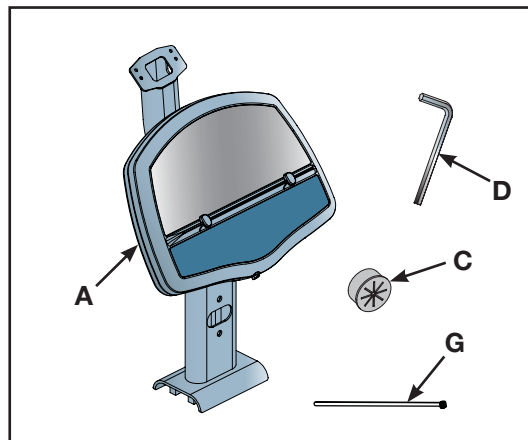
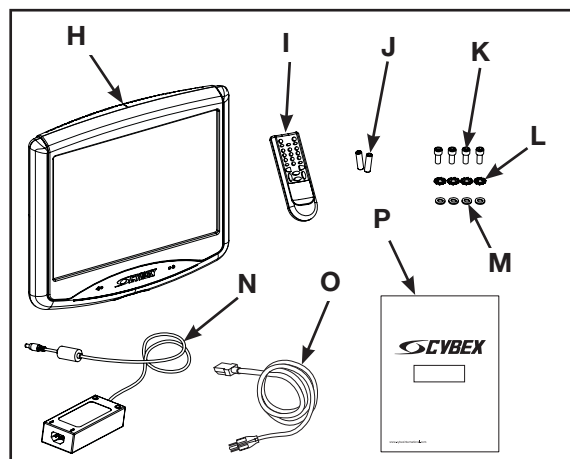
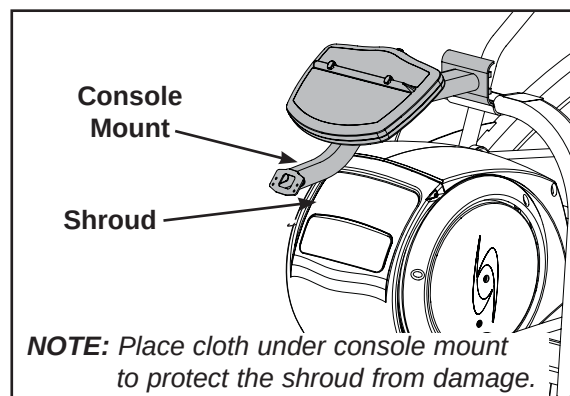

Figure 11
Figure 12
Figure 13
2. Verify the kit contents shown in Figure 11.
- A. Console with monitor mount (1), 620A-220
- B. Coax and power cables (1), 630A-104 (in Arc frame)
- C. Strain relief bushing (1), PP740000
- D. 3 mm Allen wrench (1), BK030210
- E. Poster (1), 620A-387 (not shown)
- F. Warranty sheet (1), LT-20219 (not shown)
- G. Cable Tie (2), EW000028
3. Verify the monitor kit contents shown in Figure 12.
- H. Monitor (1), EE000005 or EE000007
- I. Remote control (1), EM000000
- J. Batteries, Remote control, AAA size (2), N/A
- K. Screws, Mounting, M4 x 0.7 x 10 mm (4), HC692860
- L. Washers, External Lock (4), HS047300
- M. Washers, Flat, M4 (4), HS097600
- N. AC/DC Adapter (1), ET300038
- O. Power cord, 115 VAC 60 Hz. (Country specific cords supplied with product). (1), EW600000
- P. Personal Entertainment Monitor Manual (1), LT-20191
- A. Lay the console mount on the Arc Trainer as shown in Figure 13. **NOTE:** This will allow easier access to route the cable assembly.